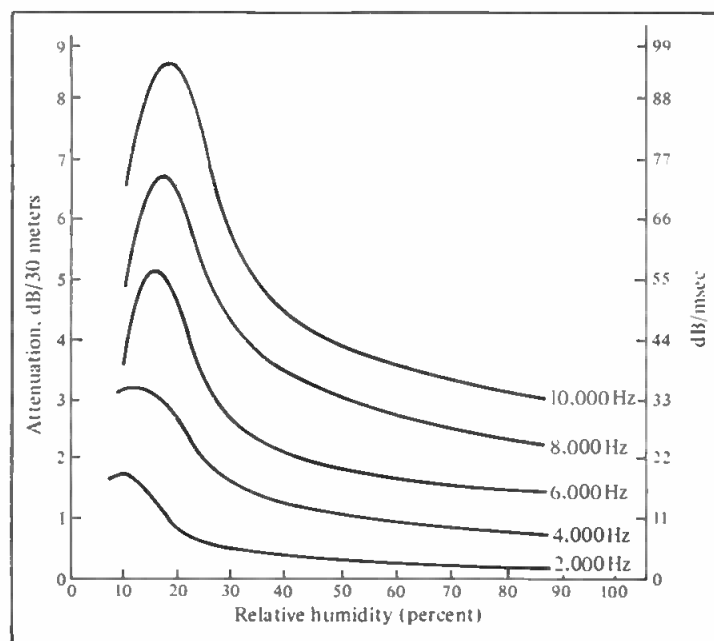

Figure 4. The absorption of sound in air versus relative humidity.
FIGURES 4 and 5 show the excess attenuation of sound over and above inverse square losses as a function of frequency and relative humidity (RH). Most people are under the impression that rooms sound "deader" when the humidity is high, but actually the reverse is true. Note that when the air is quite dry, in the 10-20 percent RH range, the attenuation is maximum and that it is greatest at high frequencies.